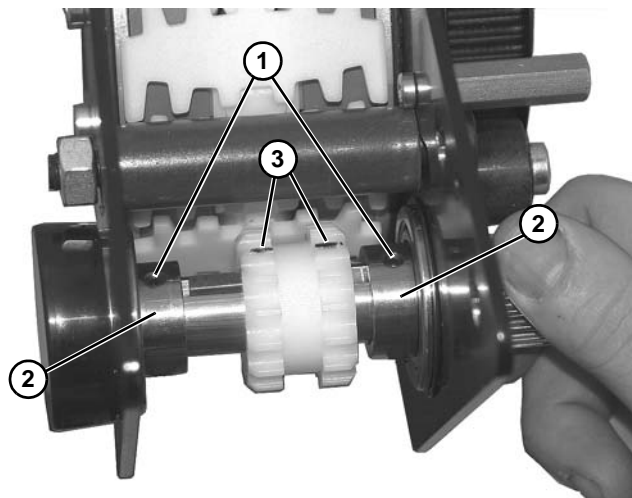

Figure 167
14. Loosen two set screws (Figure 167, item 1) on two bearings (Figure 167, item 2).
15. Loosen sprocket set screws (Figure 167, item 3).